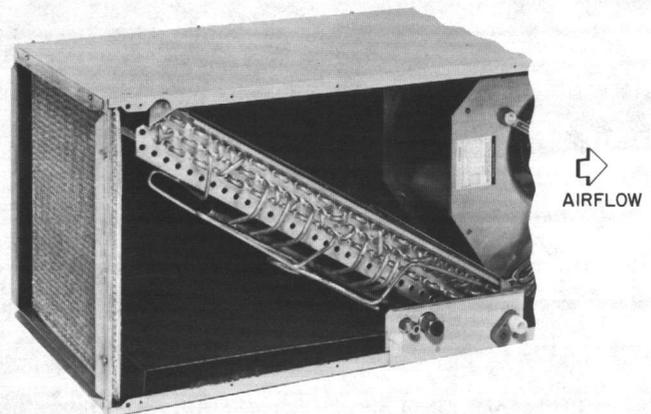

Fig. 3 — Coil Positioned for Right-Hand Discharge
- d. Reinstall coil in cabinet as shown in Fig. 3. Ensure the coil positioning tabs enter slots provided in rear of cabinet.